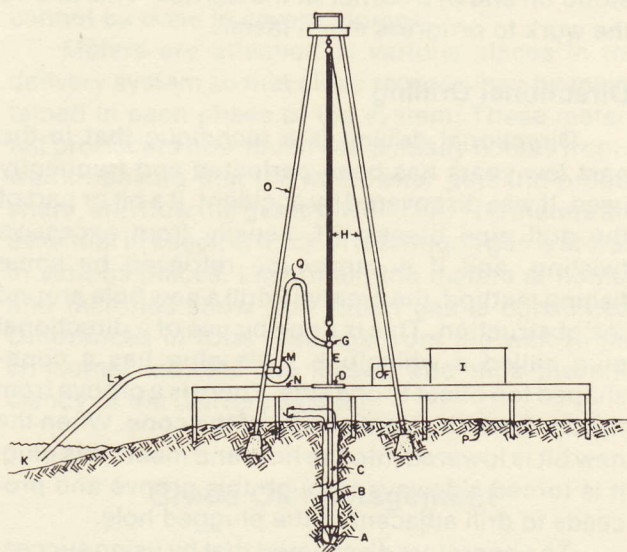

Fig. 5.—Rotary drilling rig.
A diagram of the overall drilling machine is shown in Figure 5. The rotating table (D) is mounted in the floor of the derrick on heavy bearings (N). It can be rotated by large chains or gears which are in turn connected to large diesel engines (I) equipped with clutches, brakes and transmissions. Rotation speeds vary from 50 to 300 rpm. Slow speeds are used when drilling hard rock.